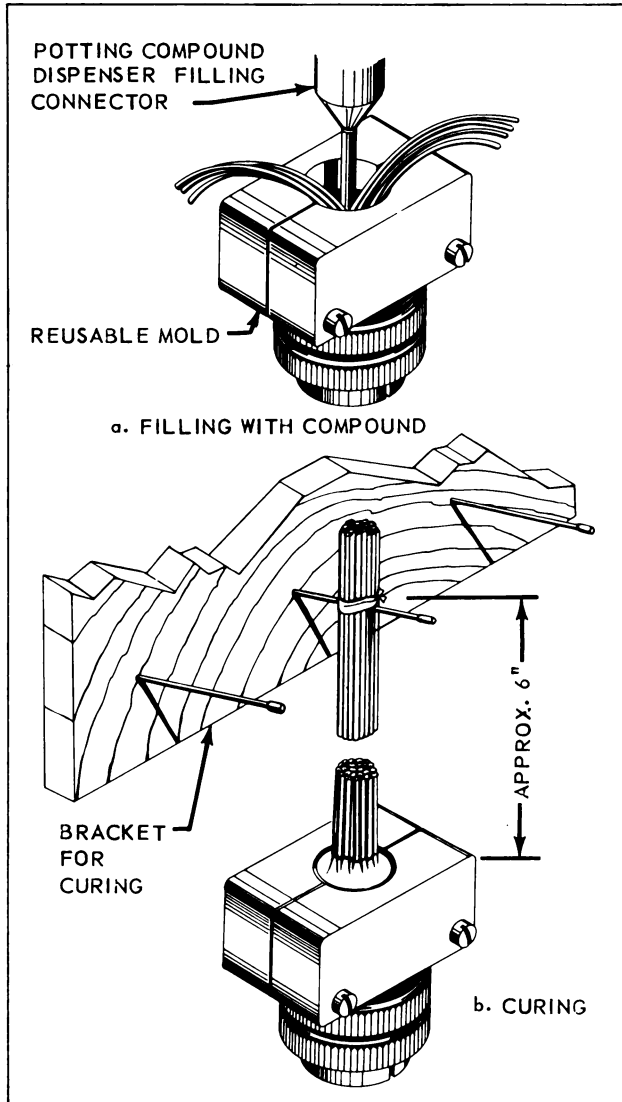

Figure 3-49. Filling and Curing Potting Connector
g. Insert potting compound prepared in accordance with paragraph 3-67. Fill back of connector by inserting nozzle down between wires until it almost touches back of insert (See Figure 3-49). Fill slowly while moving nozzle back from insert and watch compound to be sure no air bubbles are trapped. Fill to top of mold. Tamp down the compound, if necessary, with a wooden or metal 1/8 inch dowel. Tap connector assembly on a resilient surface or vibrate mechanically to help flow the compound into all spaces and to release trapped air.
i. Immediately after filling each connector, tie the wires together loosely about 6 inches back from connector. Be sure that wires are centrally located in the connector so that each wire is completely surrounded by potting compound. Suspend the assembly by placing the tie over a nail as shown in Figure 3-49 and allow to air cure for at least 1-1/2 hours at 75°F without any movement.